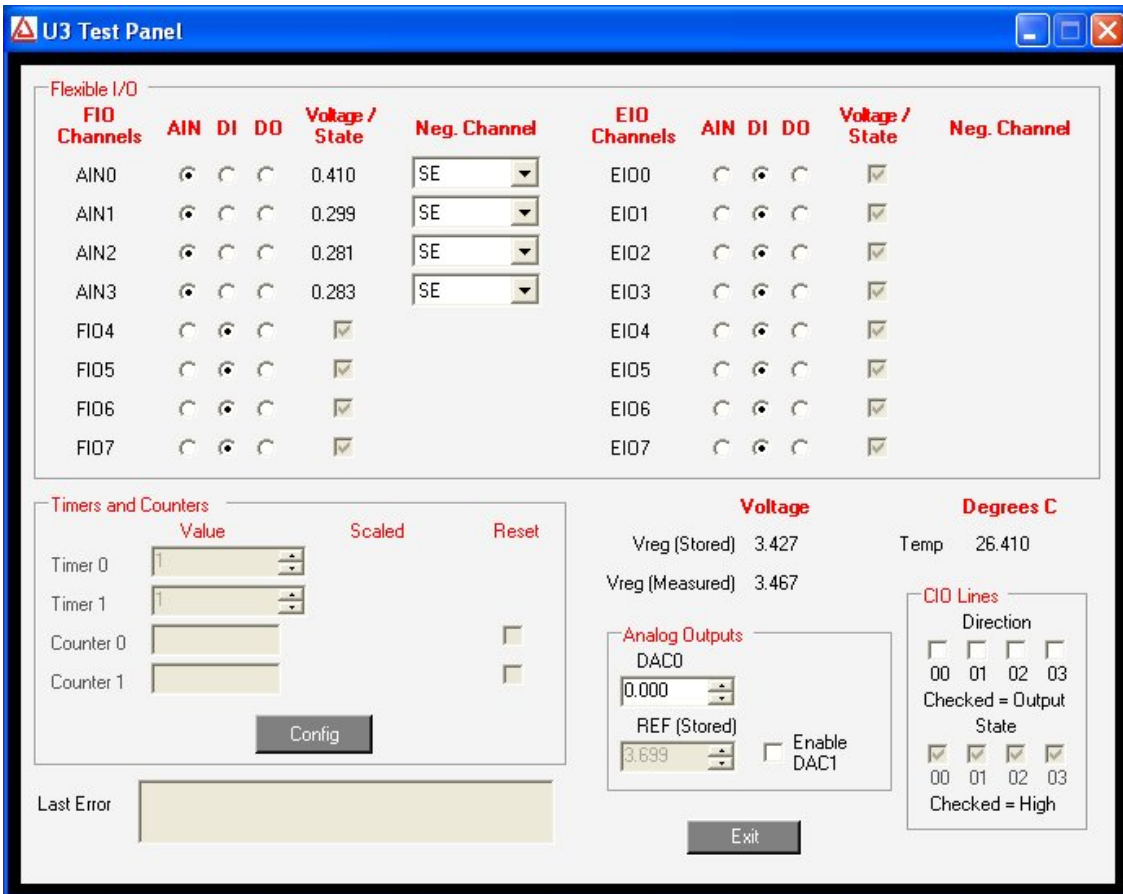

Figure 1-3. LJControlPanel U3 Test Window
| Figure 1-3. LJControlPanel U3 Test Window..... | 10 |
- Test: Opens the window shown in Figure 1-3.
Figure 1-3 shows the U3 test window. This window continuously (once per second) writes to and reads from the selected LabJack.